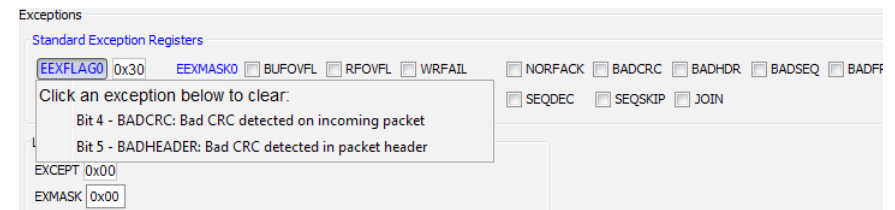

Figure 13: The Master Development System Software Exception Flags
- The EEXFLAG0 and EEXFLAG1 boxes show the current value for the flags. 0x00 means no exceptions were detected. A non-zero value means an exception flag is set. Clicking on the box opens a menu showing which flags are set. Clicking on the flag clears it (Figure 13).